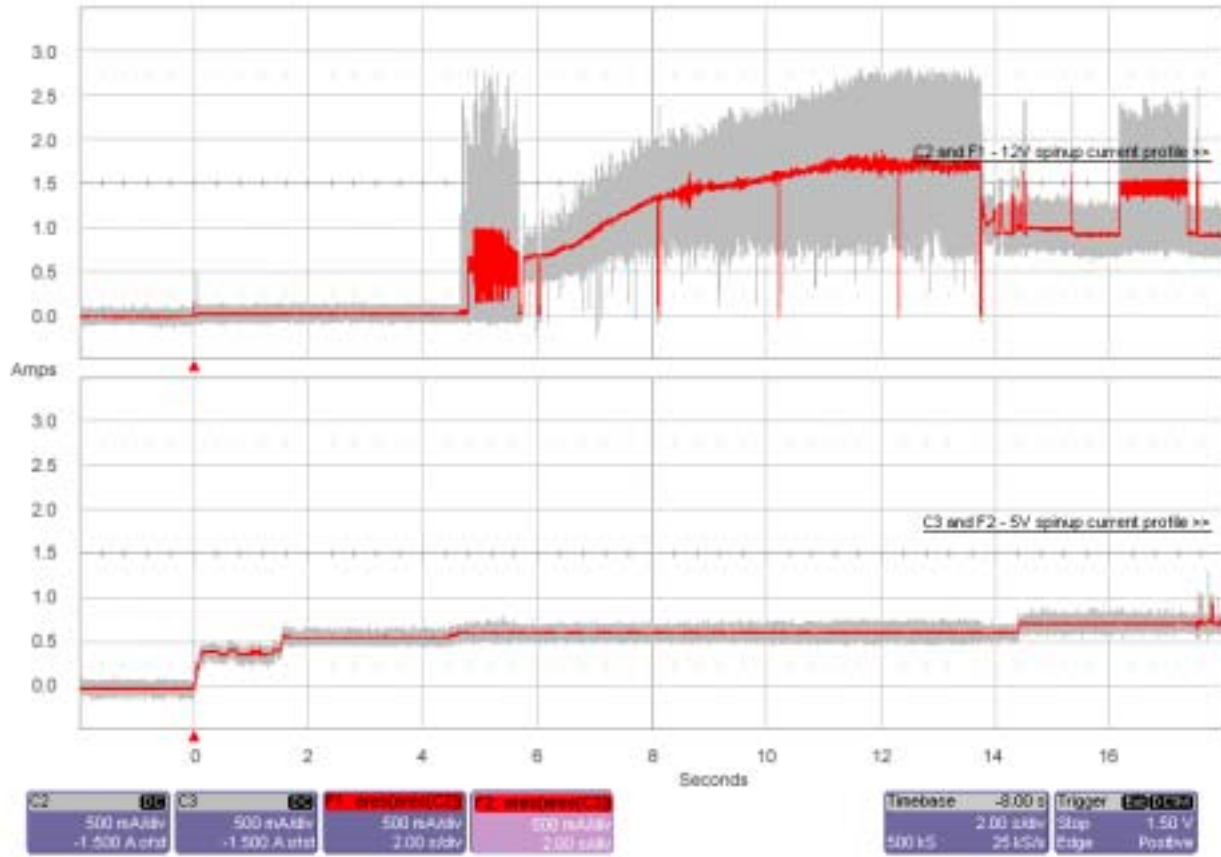

Figure 2. Typical ST3300555SS drive current profiles
- [3] See +12V current profile in Figures 2, 3, and 4.